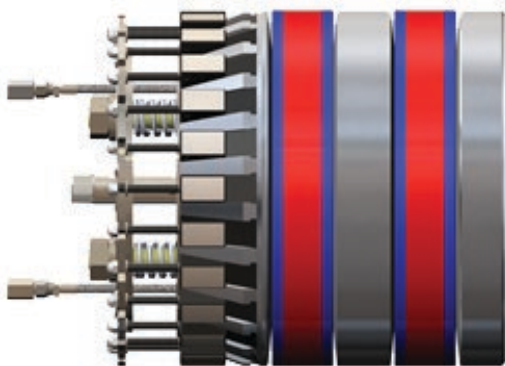
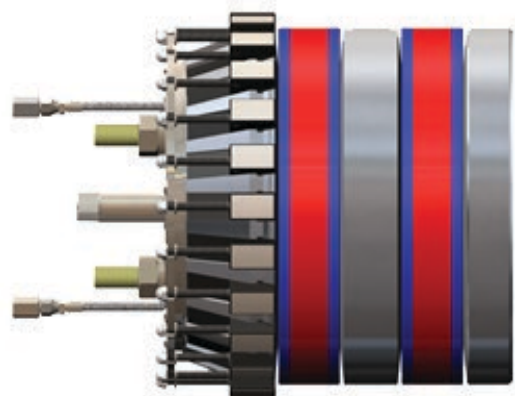

Figure 4:
Figure 5:
- Ensure the *Compression Hex Nuts*(18) are tightened to the point where the *Spring Plate Hub*(20) is in the energized state, flush to the *Retainer Plate*(17).
- Do not over tighten or torque nuts to the point that the *Seal*(10) starts to swell or extrude over the OD of the plug.
- In the “Ready to Install” state (see **Figure 5**), the GripSafe ST plug will immediately grip on the pipe upon insertion.
- If insertion into the pipe proves problematic in the “Ready to Install” state (see **Figure 5**), it may be advantageous to insert the plug in the “Not Ready to Install” state (see **Figure 4**). To do so, loosen all **Compression Hex Nuts(18)** to the top of their respective **All-Thread Shafts(11)**. Care should be taken to not completely remove the **Compression Hex Nuts(18)** from the assembly. In this orientation, the **Gripping Wedges** will be fully retracted and the plug can be inserted freely into the pipe.